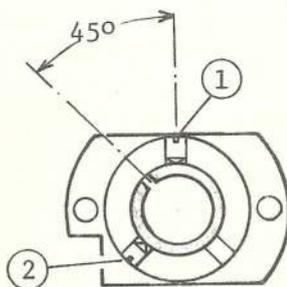

Fig. 19
- Slit of Pipe EFC 4668 is positioned to the direction as shown in Fig. 19.
- Adjust the mesh for Pinion shaft and Rack plate and focusing knob's torque by fixing screws ① and ② Fig. 19, 20.